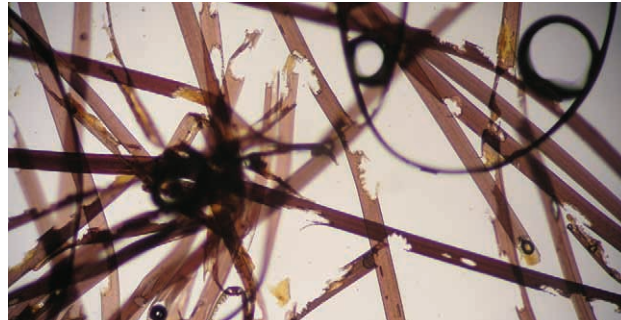

Figure 2. Microscopic image of Viloft® during biodegradation. Picture provided by IPS labs, Appleton
- **Biodegradability:** As illustrated in figure 2, Viloft is biodegradable according to DIN EN 13432:2000-12. Biodegradability is a requirement of the EDANA III guideline to guarantee not only flushability through the waste water system, but also environmental sustainability in water. This avoids the contamination of the seas with synthetic particles and microparticles (known as “marine litter”) introduced by fibres that are not biodegradable.